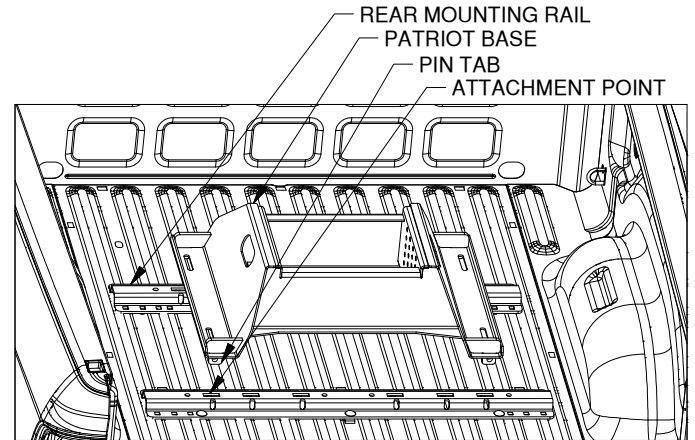

Figure C1: View into truck bed looking toward tailgate.
1. **Position the forward mounting rail.** For this step the base which will be used in the mounting rails is required. Place a mounting rail into the truck bed in front of the rear mounting rail. Place the base over the rail attachment points and carefully lower it until the pin tabs pass through the attachment points on the rear mounting rail. Attach the forward mounting rail to the forward mounting points on the base. The base should rest flat against the top of the rails, see Figure C1. With the base still attached ensure that the forward rail is centered in the truck bed.